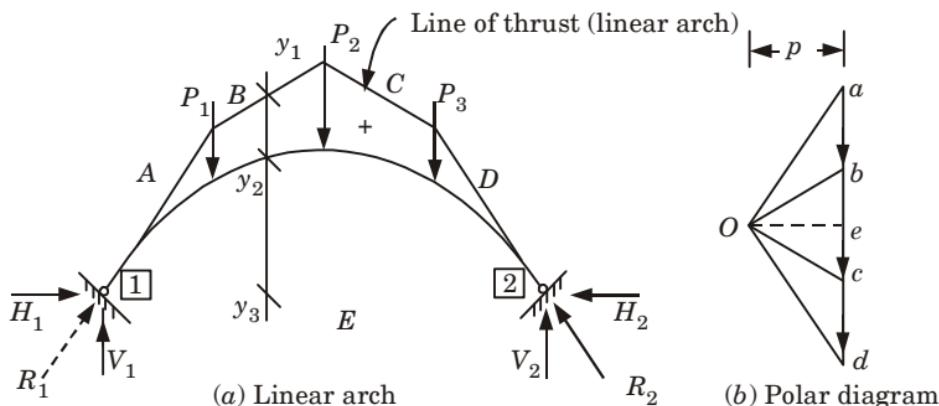

Fig. 5.4.1
1. Fig. 5.4.1(a) indicates the funicular polygon (or force polygon) corresponding to the polar diagram of Fig. 5.4.1(b).